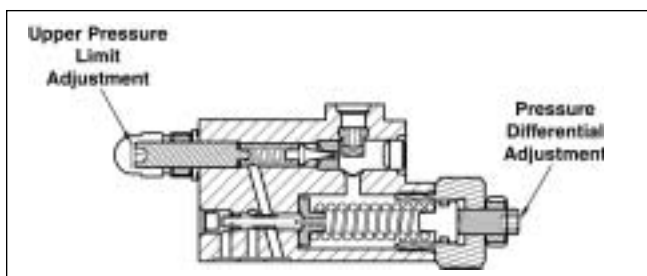

Figure 12
4. Back the upper pressure limit adjustment screw out two (2) turns. (Fig. 12, page 16)
6. Adjust the pressure differential adjustment screw to $\Delta 250 \pm 25$ psi (17 ± 1.7 bar). (Fig. 12)